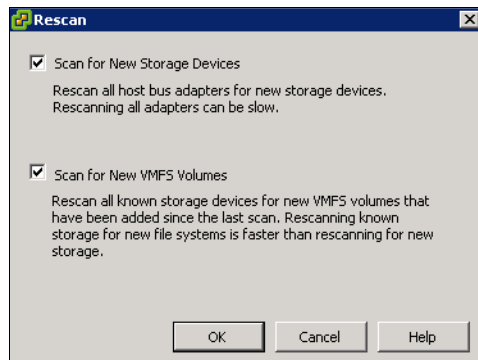

Figure 12-42 Rescan
- Click **Rescan All...** and click **OK** (Figure 12-42) to scan for new storage devices.